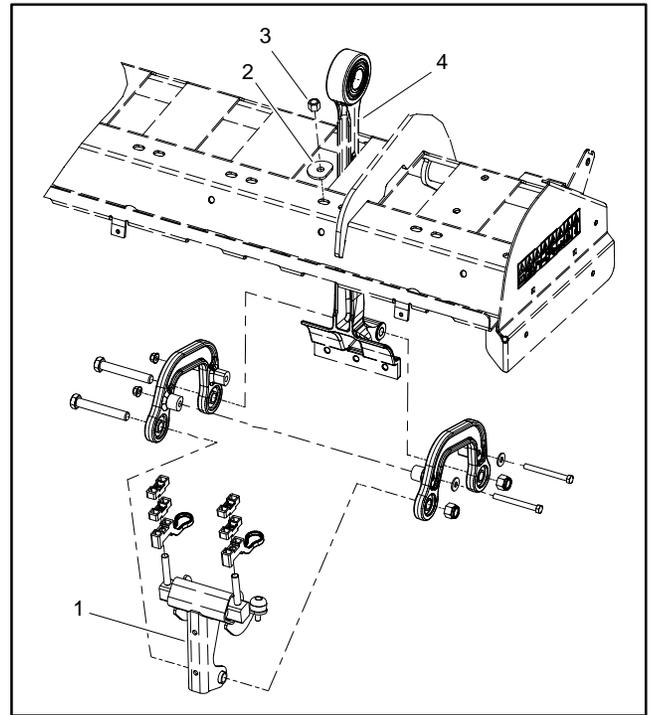

Figure 9
3. For stomper arm that is to be removed, remove two (2) flange nuts and hardened D washers that secure rotolink damper to coring head frame (Fig. 9) (see Rotolink Damper Assemblies in this section).
6. Secure rotolink damper to coring head frame with two (2) lock nuts and hardened D washers (Fig. 9) (see Rotolink Damper Assemblies in this section).